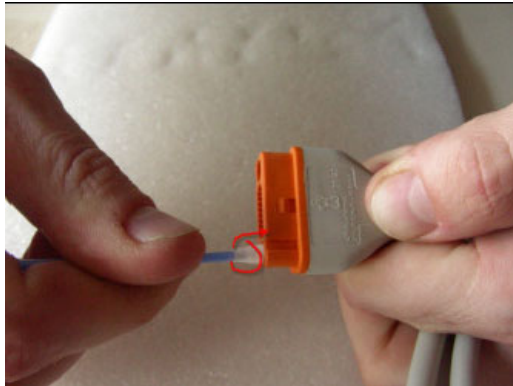

Figure 5
- b. Apply O-lube into each of the two bushings (lateral holes used for air supply) of the CNAP® finger cuff and the CNAP® cable (both ends) as shown in Figures 5 and 6.